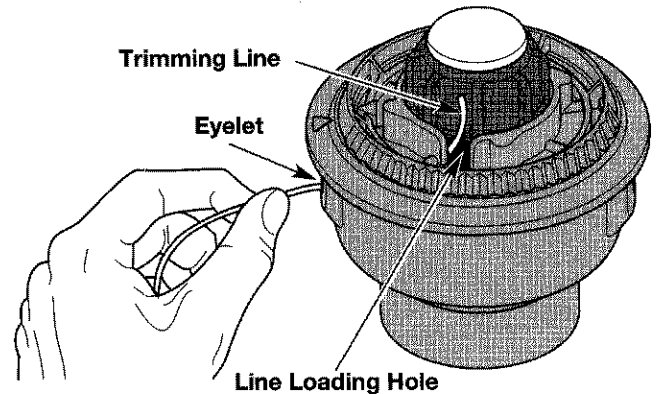
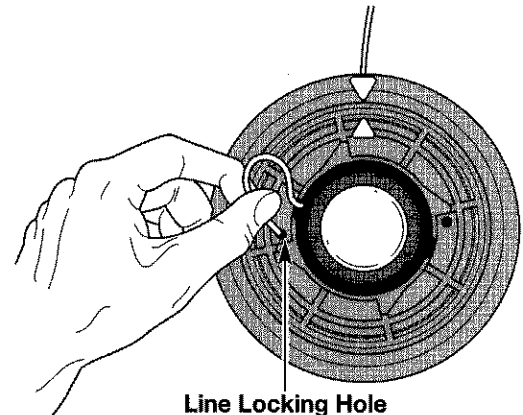

Fig. 19
Fig. 20
3. Pull old line out of the line loading and line locking holes (Figs. 19 and 20).
4. Insert a piece of trimming line into one of the two eyelets in the outer spool. Push it up through the line loading hole in the inner reel (Fig. 19). Do not bend the line when inserting it into the eyelet.
5. Insert the line into the locking hole (Fig. 19). Do not push the line more than 1/2 inch (12.7 mm) into the line locking hole. When inserted correctly the line will form a small loop (Fig. 20).